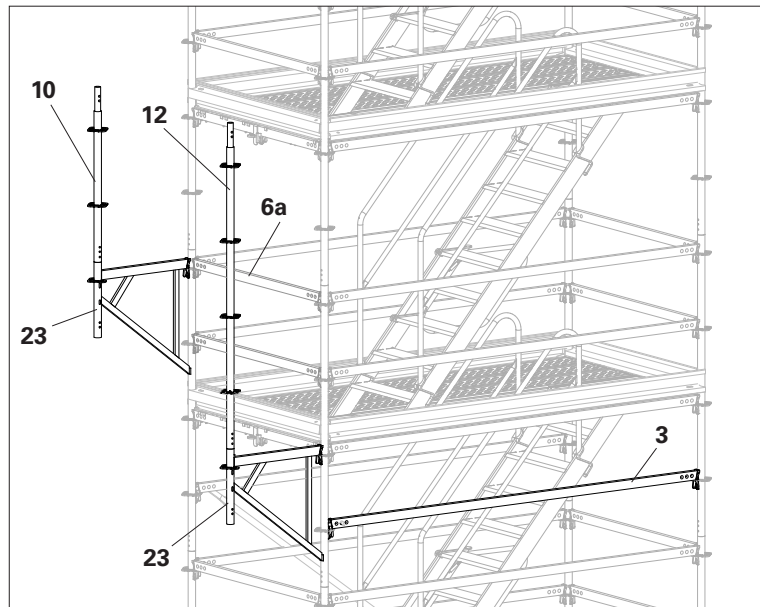

Fig. A8.02
3. Add Horizontal Ledger UH-2 300 (**3**) 50 cm beneath the suspension of the console bracket, if not available. (Fig. A8.02)